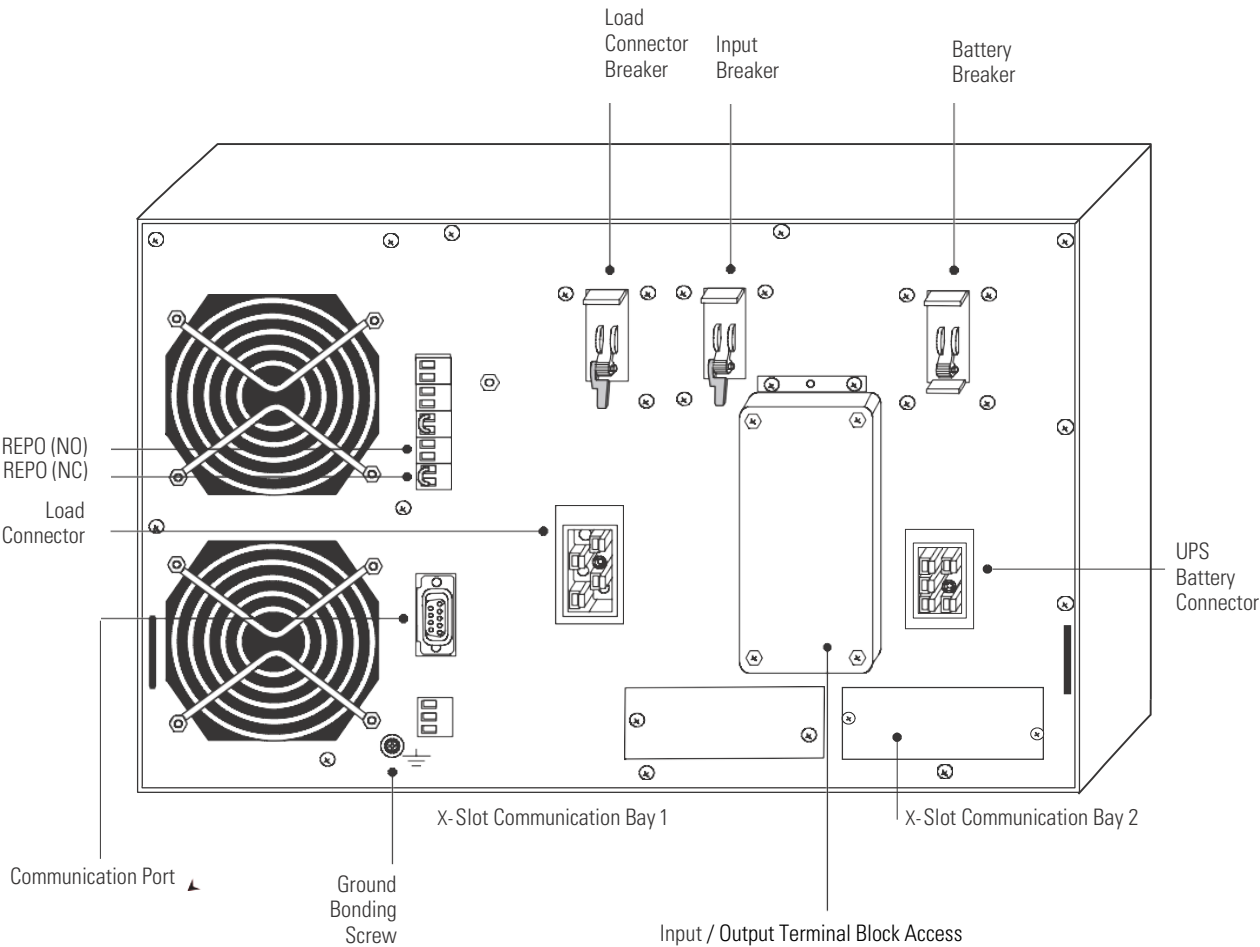

Figure 63. BladeUPS Module Rear Panel (Standalone UPS Shown with Hardwired Terminal Block)
1. Verify that the BladeUPS is properly installed in the rack and that each circuit breaker on the BladeUPS rear panel is in the OFF (O) position.
2. If your rack has conductors for grounding or bonding of ungrounded metal parts, connect the ground cable (not included) to the ground bonding screw on the BladeUPS rear panel. Figure 63 on page 77 shows the location of the ground bonding screw.